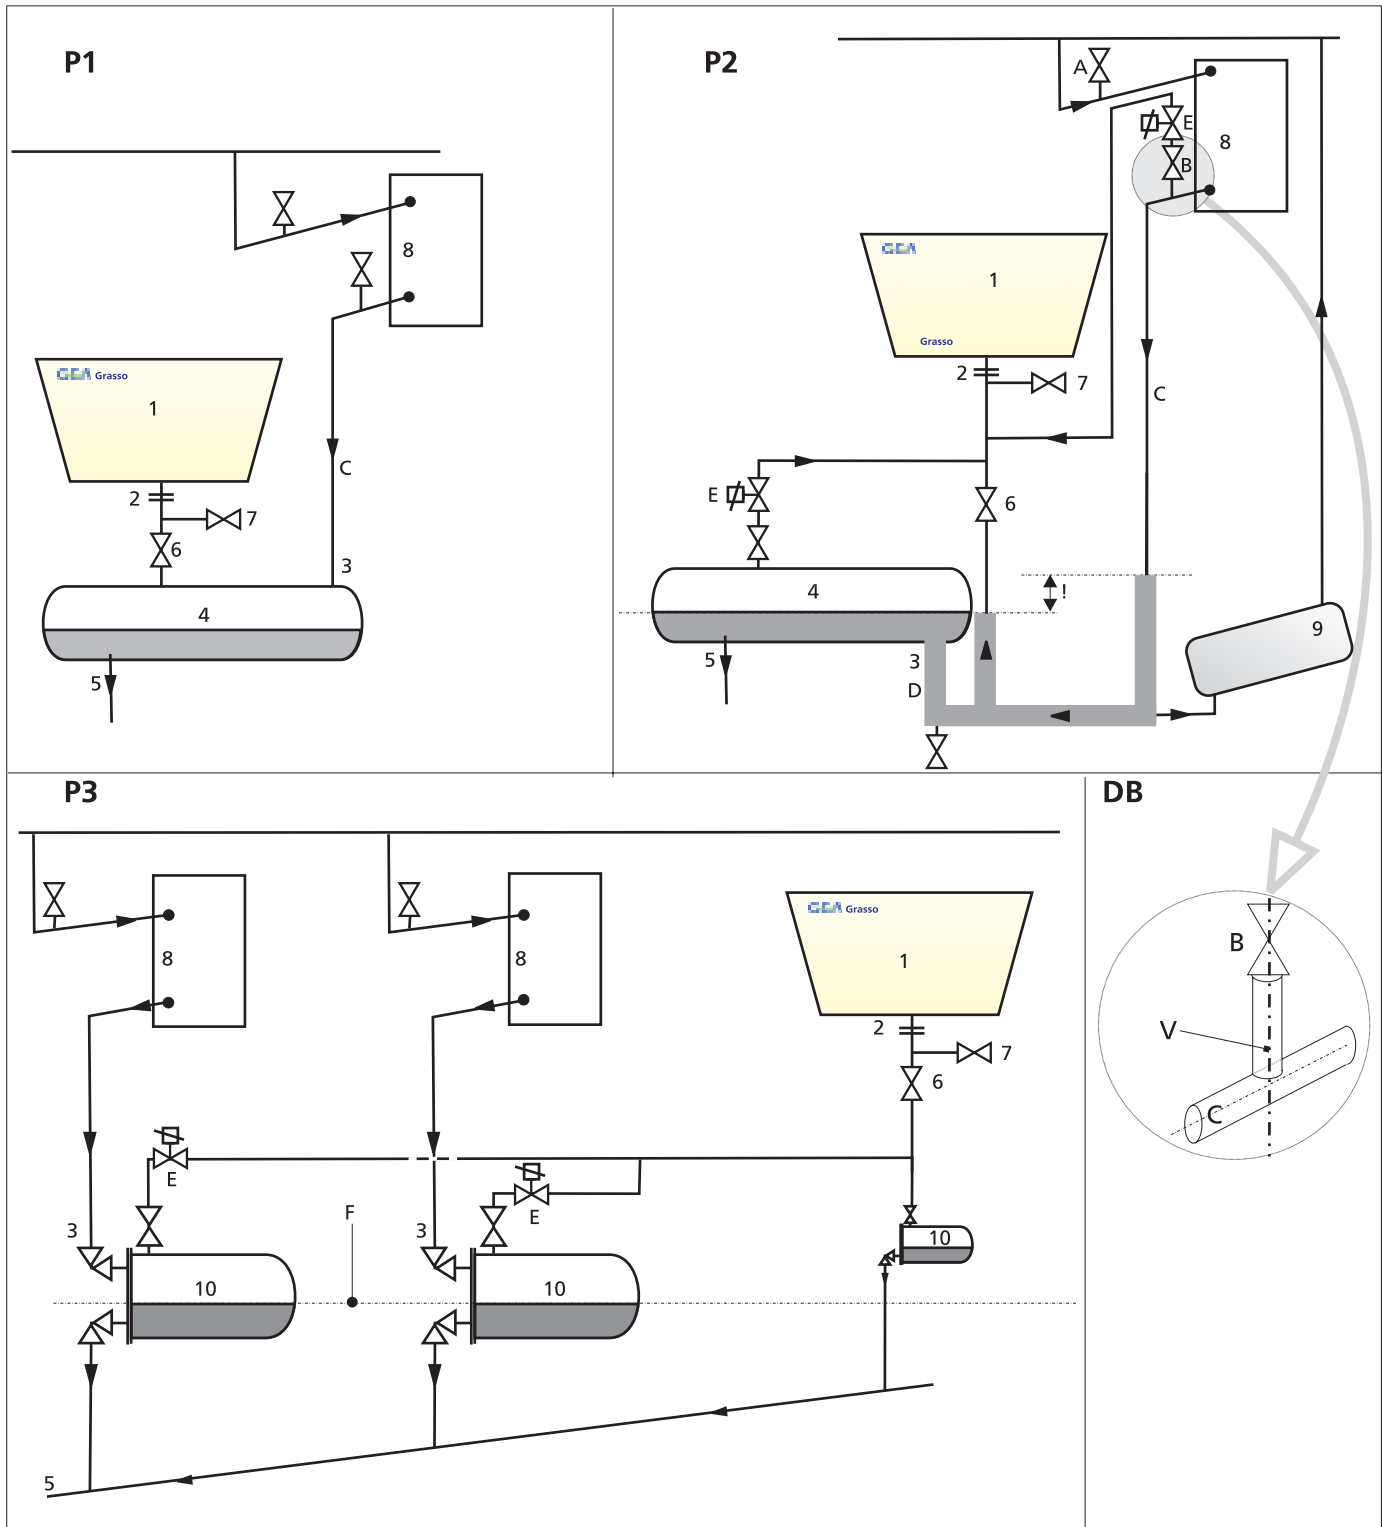
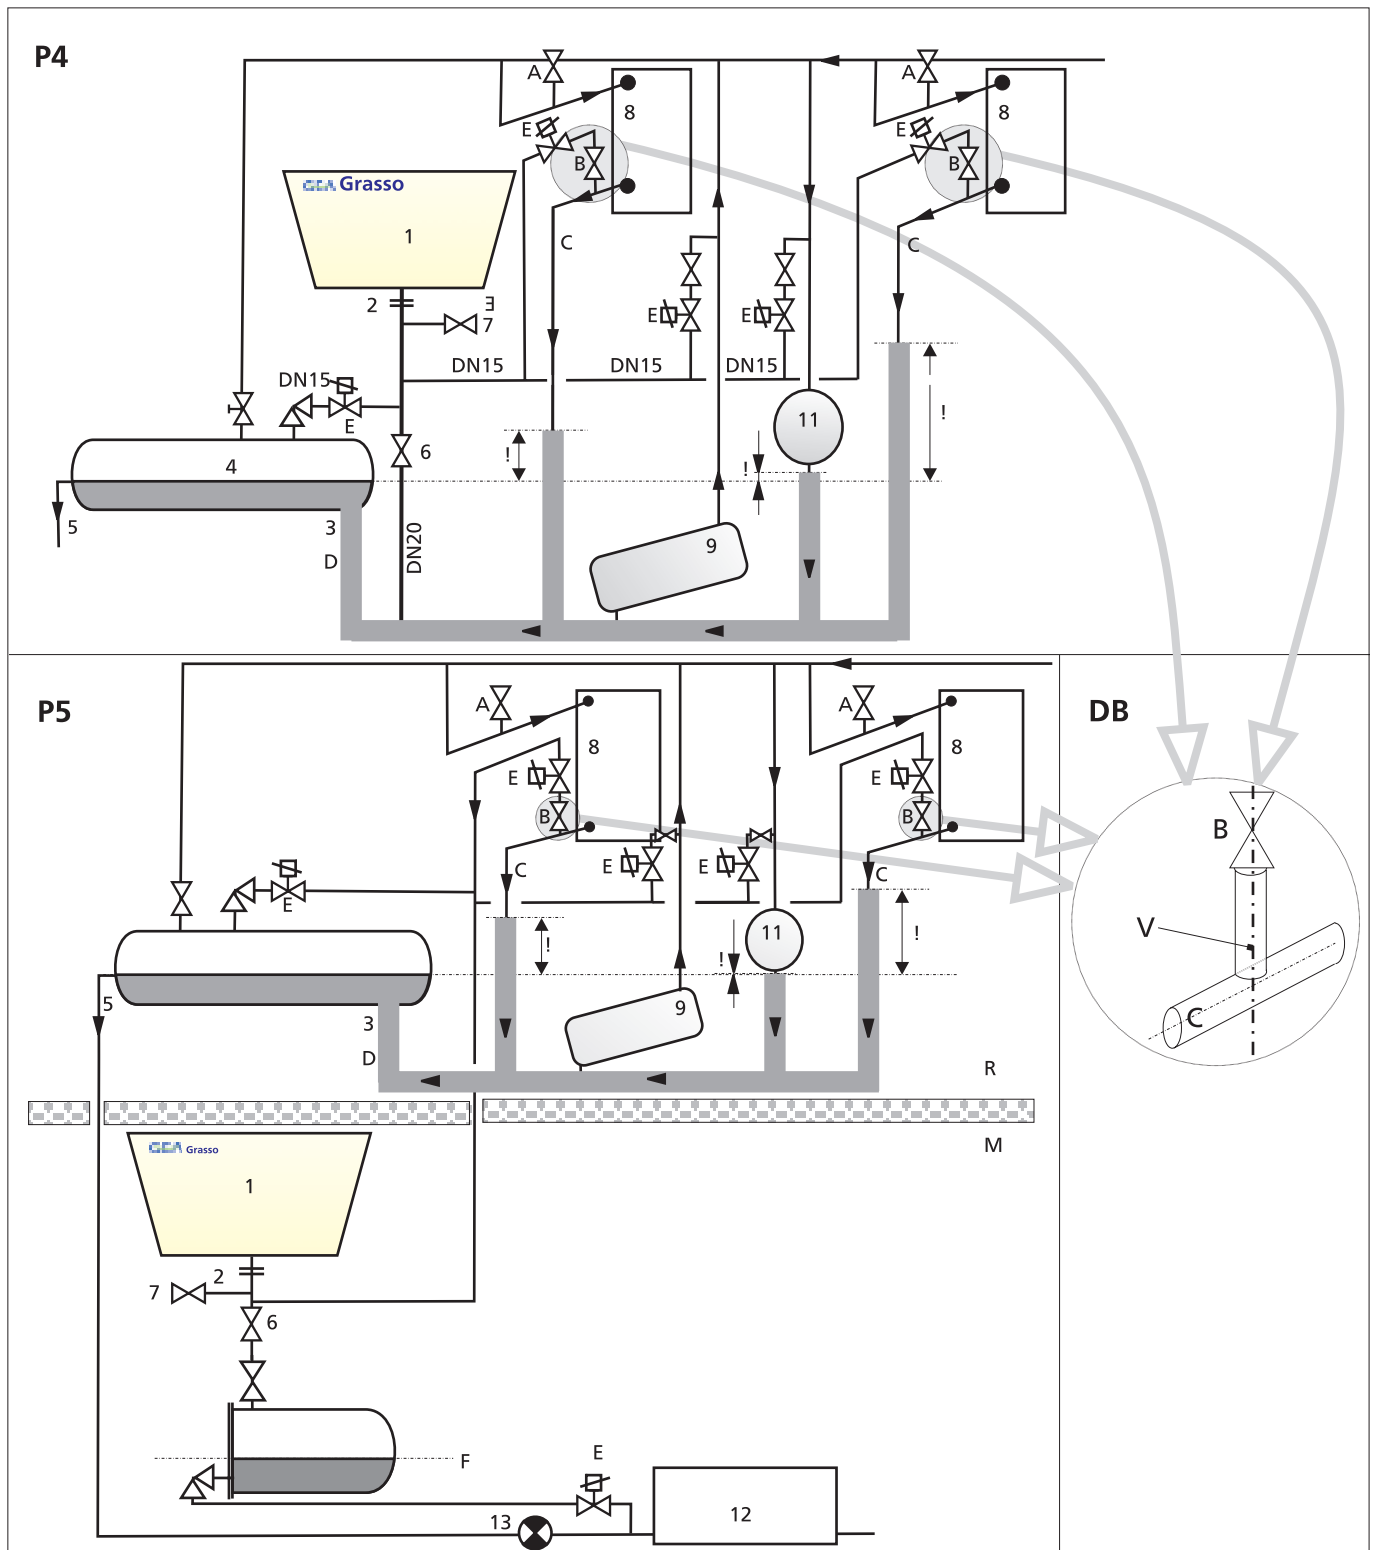

Fig. 1.3-1 P1, P2, DB, refer "Mounting location drawings:" on Page 10 and Table 1.3-1
Fig. 1.3-2 P3, P5, P5, DB, refer "Mounting location drawings:" on Page 10 and Table 1.3-1
- 1 Single condenser system with open condensate line (refer Fig. 1.3-1, P1)
- 2 Single condenser system with liquid trap (refer Fig. 1.3-1, P2)
- 3 Multiple condenser system with HP floats (refer Fig. 1.3-2, P3)
- 4 Multiple condenser system with liquid traps, purger mounted ABOVE liquid level receiver (refer Fig. 1.3-2, P4)
- 5 Multiple condenser system with liquid traps, purger mounted BELOW liquid level of receiver (refer Fig. 1.3-2, P5)
- 6 Detail B (DB), important mounting detail for purge connection (refer Fig. 1.3-1/ Fig. 1.3-2, DB)
1.3.2 DRAWING FIG. 1.3-1, P1
Only in case of a single condenser system, with an oversized (<0.3 m/s) condensate line to secure flash gas return to the condenser, a purger can be positioned on the receiver (refer Fig. 1.3-1, P1).
1.3.3 DRAWINGS FIG. 1.3-1 AND FIG. 1.3-2, P2 P3, P4, P5
Table 1.3-1 Legend for Fig. 1.3-1 and Fig. 1.3-2